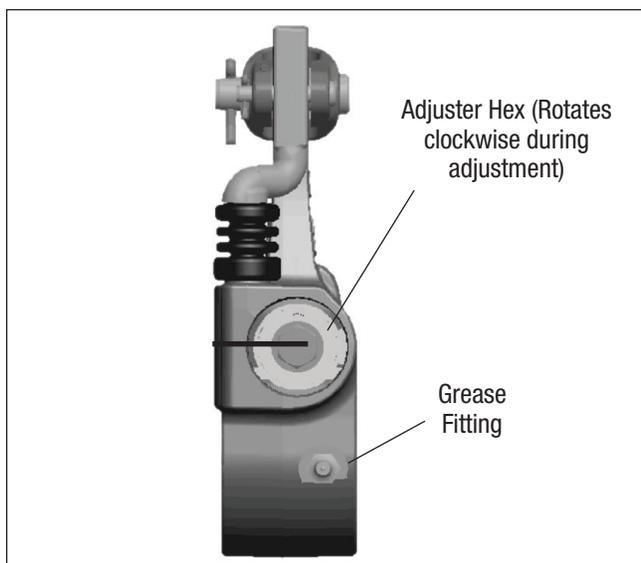

Figure 2 - Testing The Adjuster Mechanism
2. Using a straight edge, scribe a line across the manual adjustment hex head and slack adjuster body (*refer to Figure 2*).